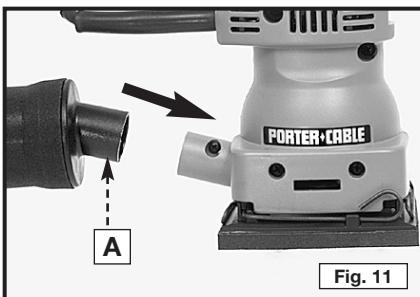
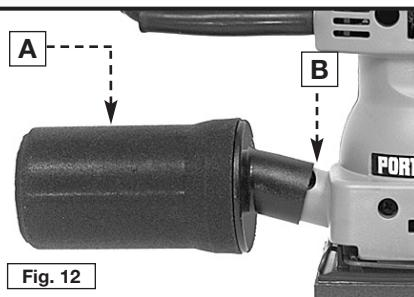

Fig. 11
Fig. 12
1. Position dust collector (A) Fig. 11, to sander nozzle. Seat collector firmly onto the nozzle, (B) Fig. 12.